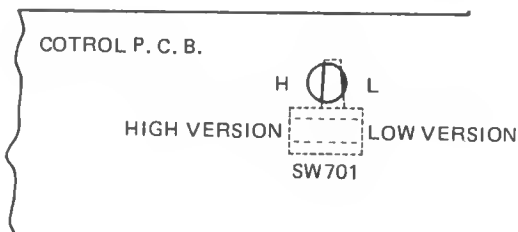
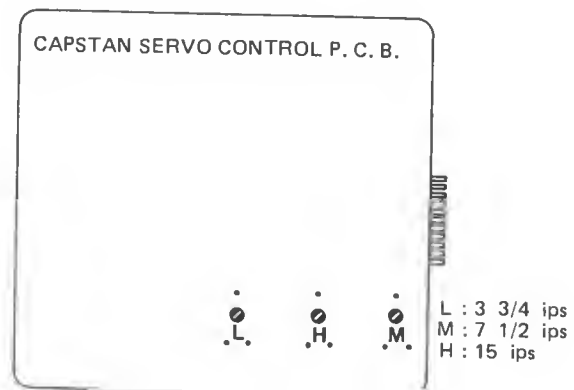

Fig. 6-6 Location of Tape Speed Conversion Switch
Fig. 6-7 Capstan Servo Control P.C.B.
- (1) Remove the 6 screws attaching the rear panel to the tape deck. Remove the panel.
- (2) Remove the 4 allen screws that hold the right side panel to the frame. Remove the panel.
- (3) The speed selection switch is located on the big P.C.B. Ass'y as illustrated Fig. 6.6.
- (4) Slide the switch to L for  $7\frac{1}{2}$  and  $3\frac{3}{4}$  or H for 15 and  $7\frac{1}{2}$  ips.
- (5) Put a speed reference tape for the speed selected on the transport.
- (6) Play the tape and measure the frequency of the output signal with a frequency counter.
- (7) Adjust the appropriate pot on the servo P.C.B. Ass'y near the capstan motor, as illustrated Fig. 6-7, to obtain the reference speed frequency.
- (8) Re-install the side and rear panels.